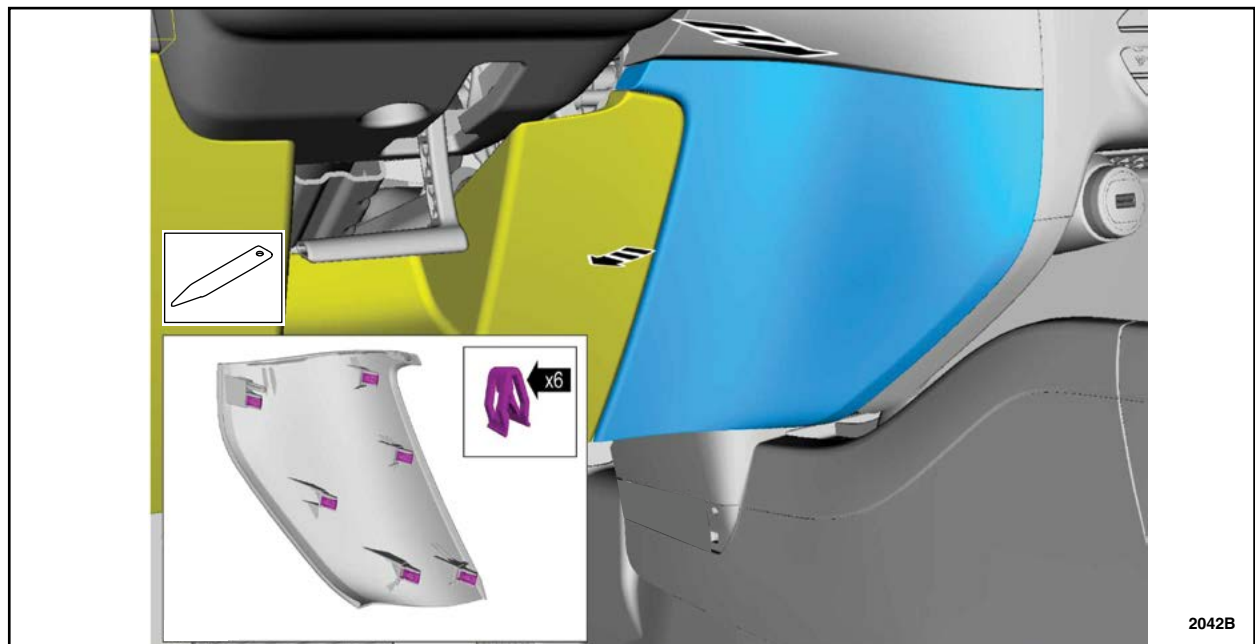

FIGURE 5
6. Position aside the lower steering column trim panel. Using a plastic interior trim tool, release the retainers and remove the lower left hand (LH) center stack trim panel. See Figure 5.
15. Install the lower LH center stack trim panel and position back the lower steering column trim panel. See Figure 5.